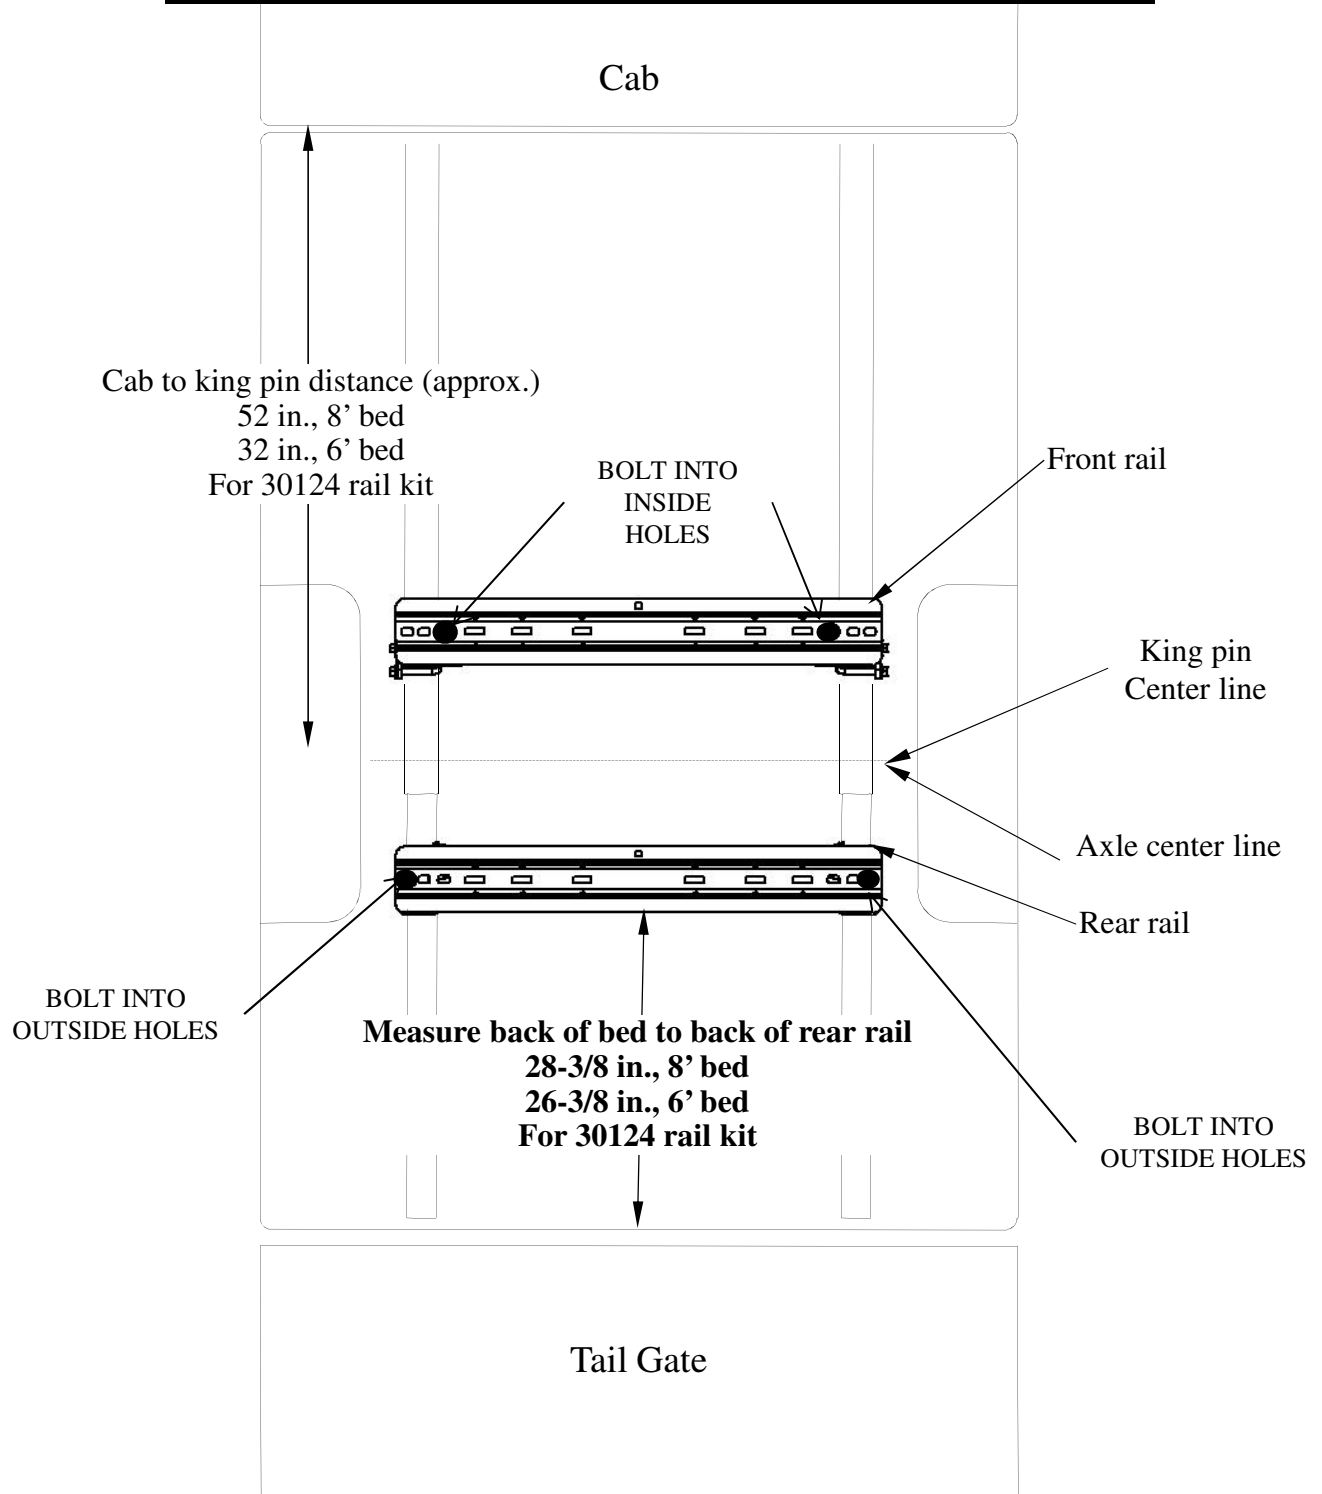

Figure 6
3. Place the rear mounting rail in the box of the truck. Using your tape measure, center the rail between the weld seams on the length of the truck box floor and the proper distance from the rear edge of the truck box as illustrated in Figure 6 (diesel) or 6A (gas).
4. Mark and center punch the holes at bolt placement as per the illustration in Figure 6. Move the rail out of the way and drill each position with a 1/8 in. drill bit. **WARNING: When drilling holes be aware of potential risks to vehicle components and make appropriate safe guards to protect them from damage.**
5. Temporarily position the frame brackets (2) (4) on the inside of the frame and check that the 1/8 in. drilled holes align with the slots of the frame bracket. Remove the frame bracket from the vehicle if the holes align. If not, adjust the 1/8 in. holes so that they do align.